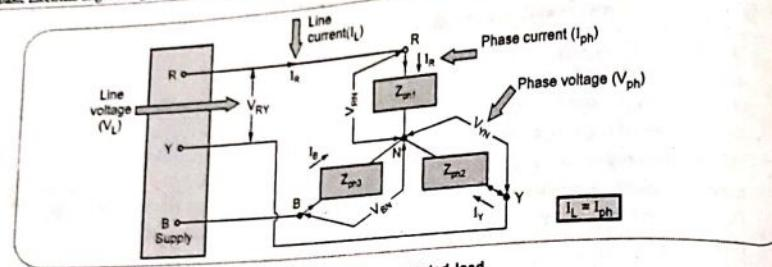

Fig. 4.7.1 Star connected load
i) **Star connected load :** There are three different impedances and are connected such that one end of each is connected together and other three are connected to supply terminal is R-Y-B. This is shown in the Fig. 4.7.1.
In the diagram shown in the Fig. 4.7.1  $V_{RN}$ ,  $V_{YN}$  and  $V_{BN}$  are phase voltages while  $I_R$ ,  $I_Y$  and  $I_B$  as shown in the Fig. 4.7.1 are phase currents.
It can be seen from the Fig. 4.7.1 that,